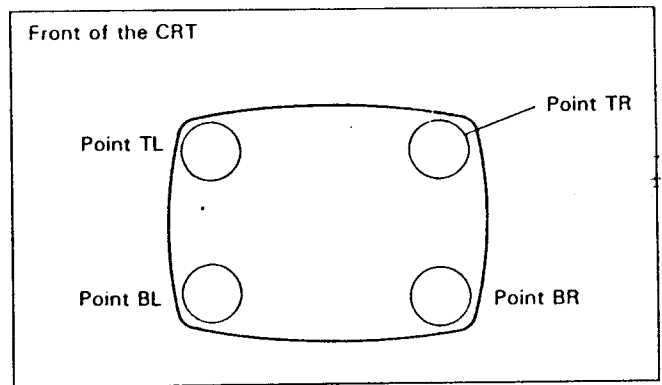

Fig. 7
- For example, when correcting convergence of the point TR on the screen in Fig. 7, insert the ribbon in the upper-right position of the CRT facing the front.